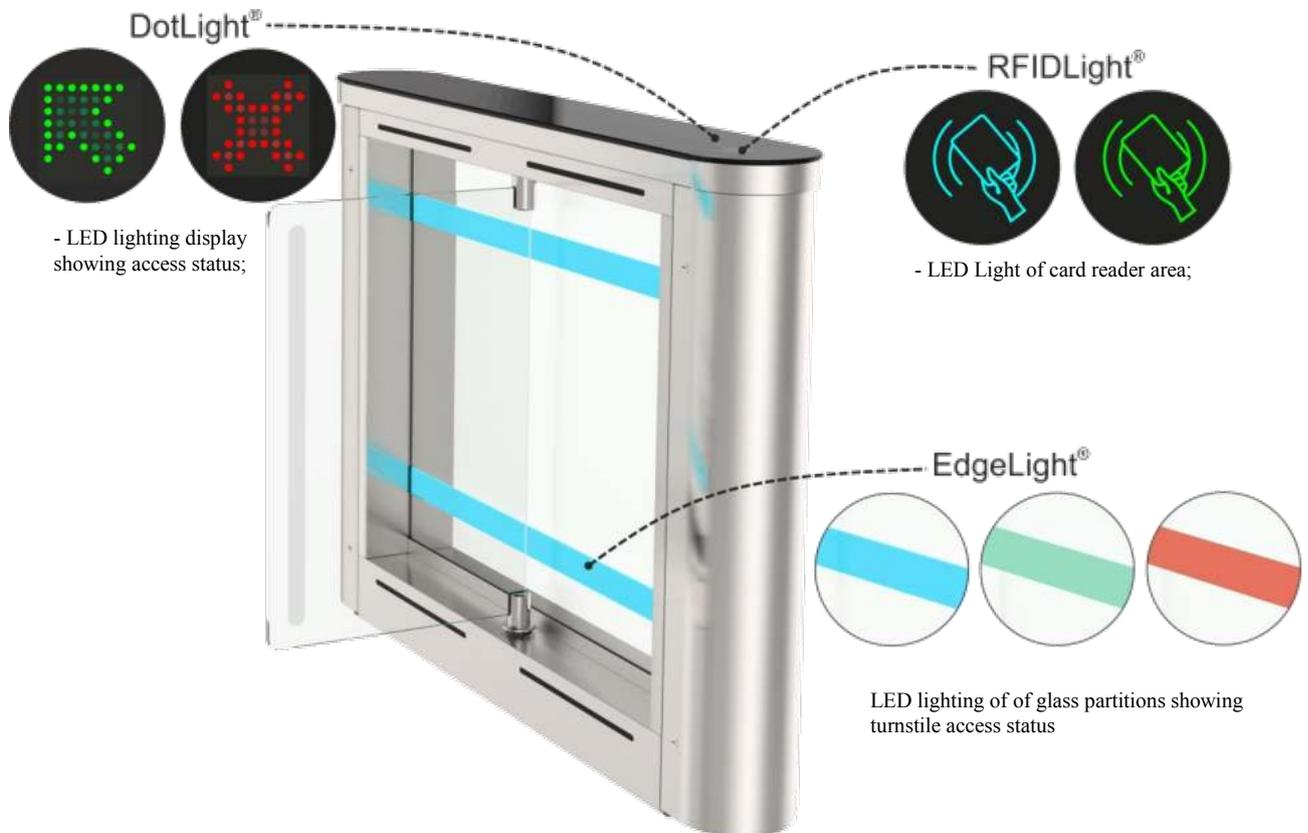

Fig.7 – Light indication of the turnstile status
1.4.1 Turnstile design (See Fig. 7)
The cabinet operating mechanism is shown in Figure 7. The lock solenoid **2** provides reliable mechanical locking of swing leaf in closed position.